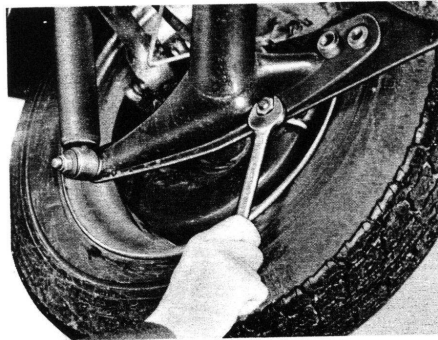

Fig. 10
1. Loosen retaining-bolt nuts and eccentric-bolt nuts at the rear axle flange (see Fig. 10).